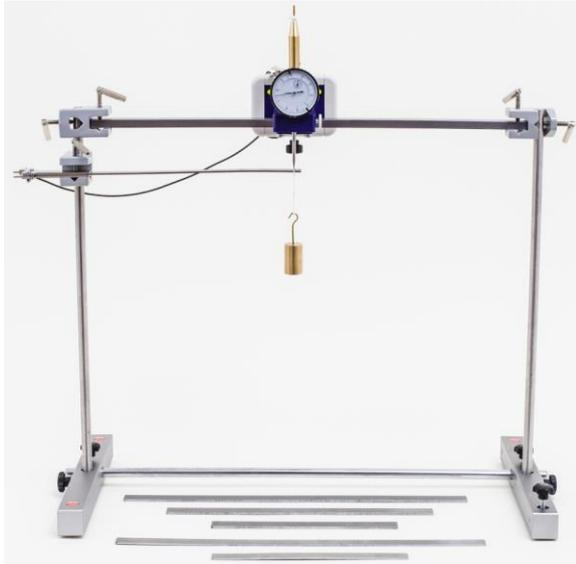

Fig. 2: Experiment set-up for material samples supported on one side.
- Assemble the stand as shown in Fig. 2. Secure the two universal clamps holding the horizontal bar with the bending gauge unit attached at the same height on the respective vertical rod. The single universal clamp needed to hold the material sample at one end should be about 15 mm below them.
- Secure the material sample to be measured lengthways in the holding clamp and fit it into the lower universal clamp as shown in Fig. 2. You should lift the measuring probe of the gauge unit and then carefully lower it onto the material sample. Make sure that the jaws of the clamp are flush against the universal clamp on the overhanging end of the sample.
- Plug the 3.5-mm jack plug on the connecting lead for the bending gauge contact into the 3.5-mm socket on the rear of the bending gauge unit. Fix one of the contacts for the lead firmly into place in the terminal provided for the purpose on the gauge and connect the other to the back of the holding clamp as shown in Fig. 2.